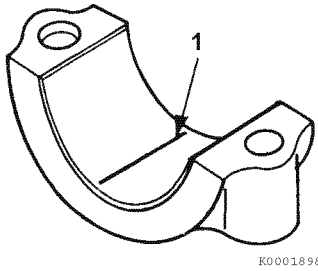

Figure 6-57
- Place a piece of PLASTIGAGE® (Figure 6-57, (1)) along the full width of the bearing insert.